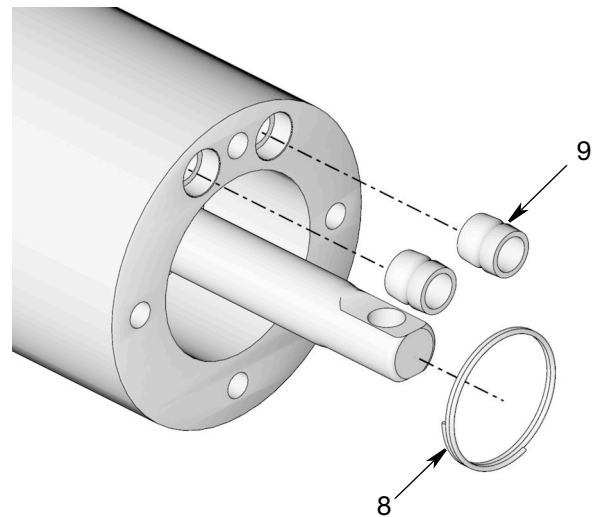

FIG. 28
13. Remove the spring (8) and the two seals (9). Put the spring in a safe place for reassembly. Discard the seals (9). Use the new seals included in the kit for reassembly (FIG. 28).